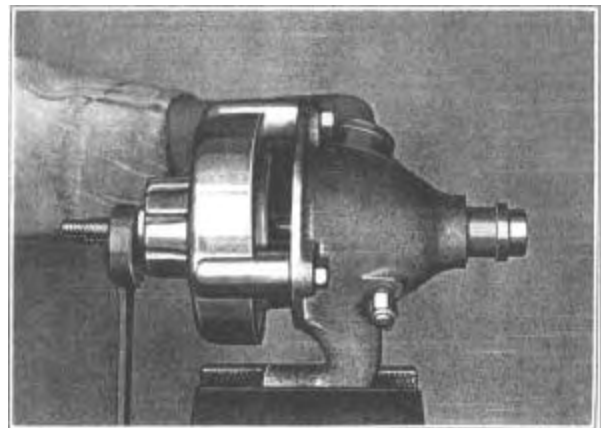

Figure 523—Installing Front Bearing
31. Remove the bushing puller and install the front bushing and thumb screw. Insert the bushing puller through both bushings and thumb screw, install the washer and nut and pull the front bushing into place. (Figure 523).